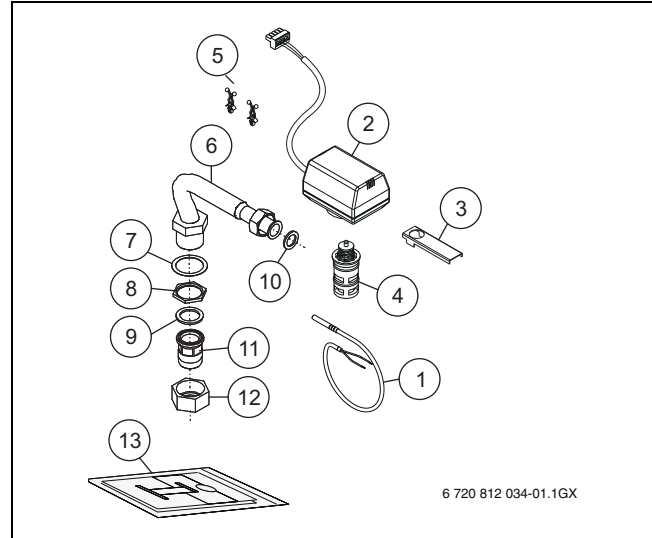
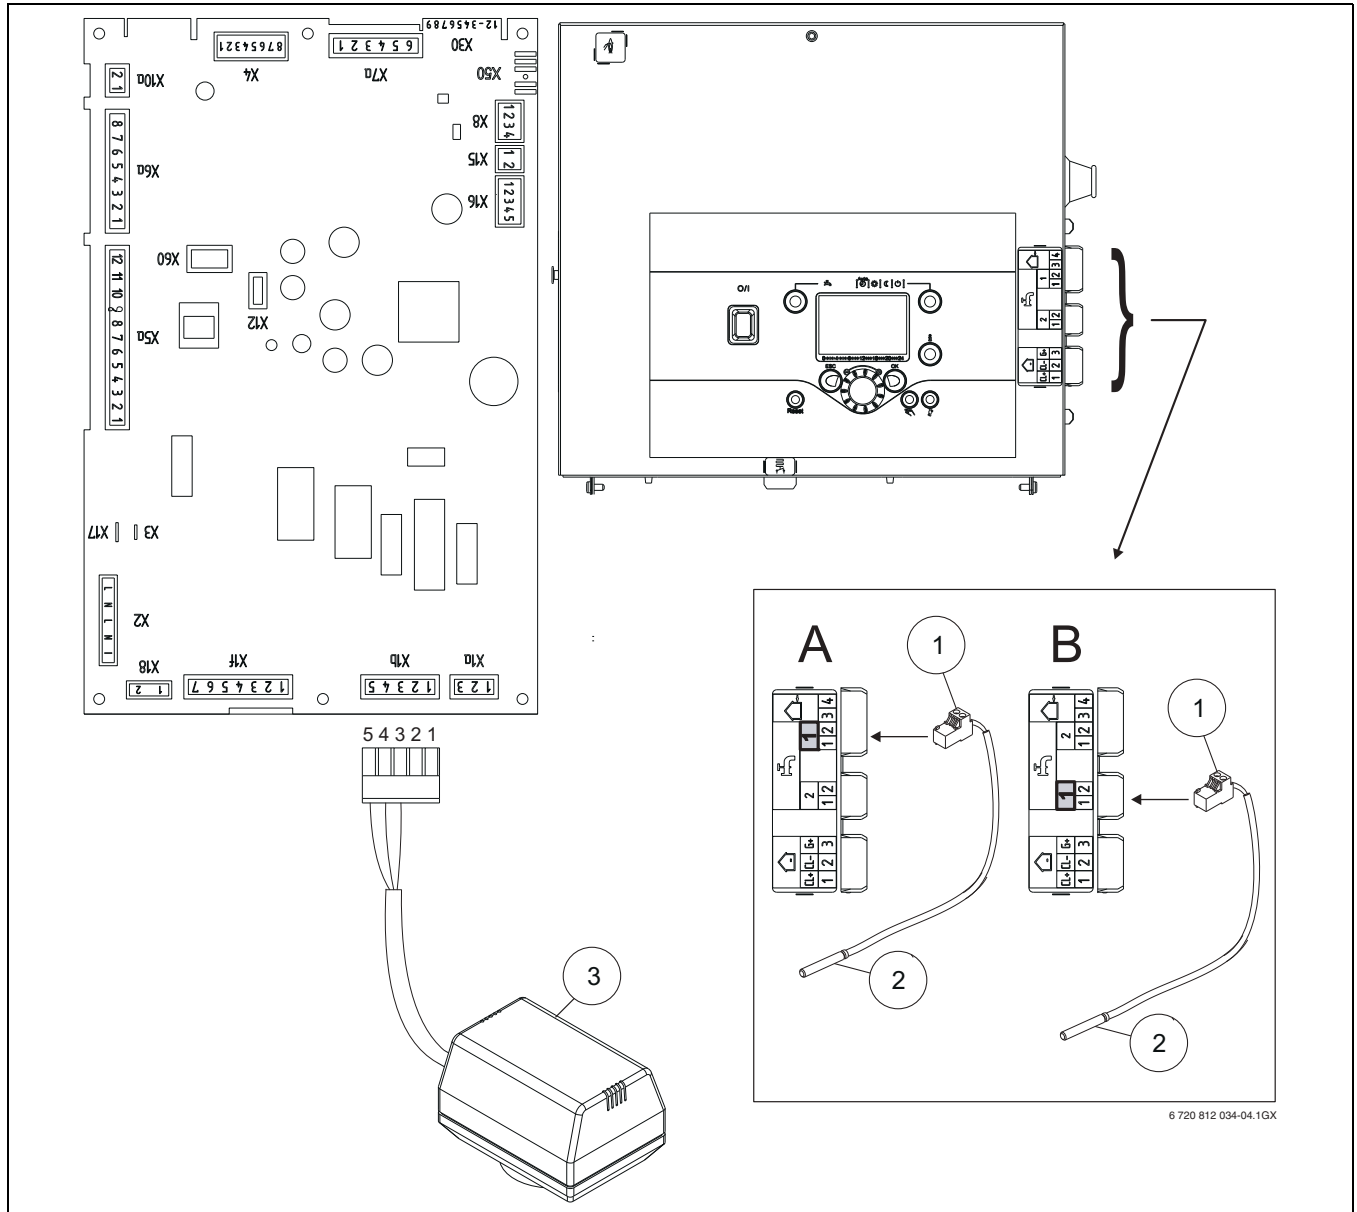

Fig. 1
Fig. 4
- ▶ Install the DHS sensor (→ Fig. 1, [1]) into the sensor pocket of the storage tank, then connect it to terminal 1 and 2 of the LMS (→ page 5) using the connector (→ Fig. 4, [1]) awaiting the boiler control panel.
► Connect the motor [3] and the DHW sensor [2] (→Fig. 4).